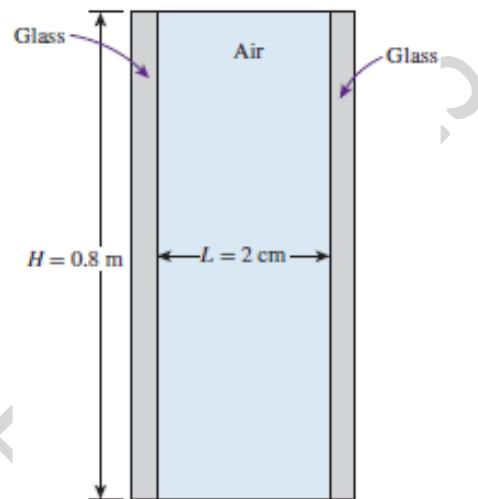

Figure 4
- b) The vertical 0.8 m high, 2 m wide double-pane window shown in Figure 4 consists of two sheets of glass separated by a 2 cm air gap at atmospheric pressure. If the glass surface temperatures across the air gap are measured to be  $12^{\circ}\text{C}$  and  $2^{\circ}\text{C}$ , determine the rate of heat transfer through the window. The properties of air at the average temperature of  $T_{\text{avg}}$  ( $7^{\circ}\text{C}$ ) and 1 atm pressure are  $k = 0.02416 \text{ W/m}\cdot\text{K}$ ,  $\text{Pr} = 0.7344$ , and  $\nu = 1.400 \times 10^{-5} \text{ m}^2/\text{s}$ .